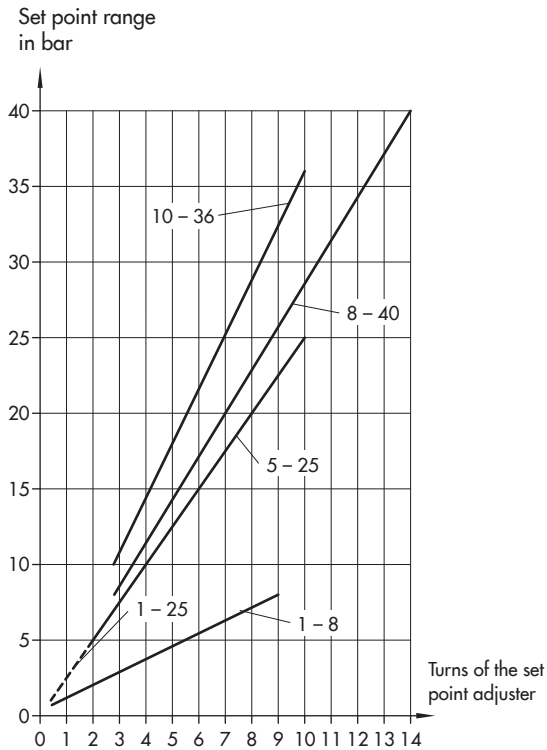

Fig. 7-1: Adjustment diagram
Every pressure regulator is delivered with the set point listed in Fig. 7-1 already adjusted.
When a pressure gauge is not installed, adjust the set point using the adjustment diagram Fig. 7-1.
7. Determine the difference between the preadjusted set point (Fig. 7-1) and the required set point. Turn the set point adjuster (10) the required amount of turns as specified in Fig. 7-1.
Any subsequent change to the set point can be also be made by determining the required number of turns using the specifications listed in Fig. 7-1.